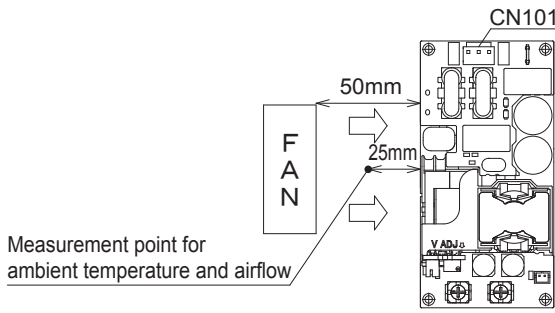

Fig.3.2 Recommended cooling condition
- ① Heat dissipation (derating): Section 3.1 reference
- ② Insulation distance: Please refer to Section 3.2
■ For reliable and safe operation, please make sure the maximum component temperatures rise given in table 3.1 is not exceeded. Please refer to Fig.3.2 - 3.3 for derating information based on standard cooling methods. Operating at the maximum temperature rating results in 3-Years life expectancy. The actual life expectancy can be extended by reducing the ambient temperature. Please refer to section 3.5 for more information.